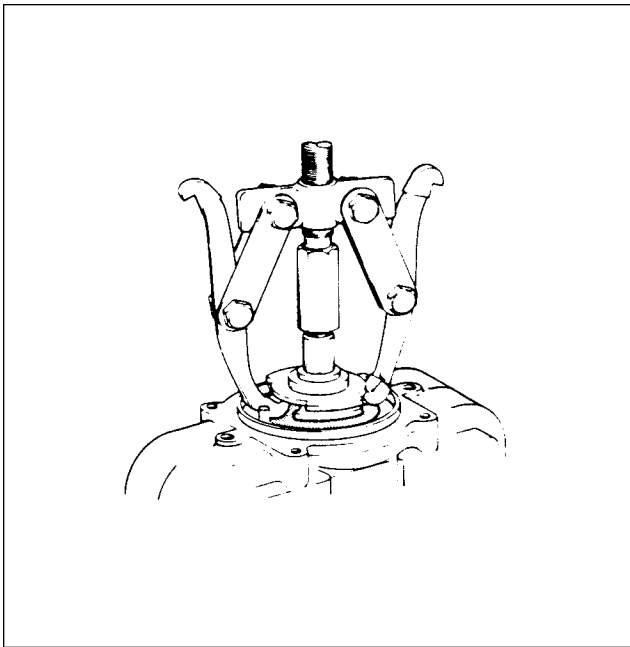

Figure 74-10. Removing Impulse Coupling
3. Thread protective cap of 11-702-1 puller securely on end of shaft. Engage puller over protective cap and cam assembly with wide jaws of puller hooked under cam assembly as shown in figure 74-10.